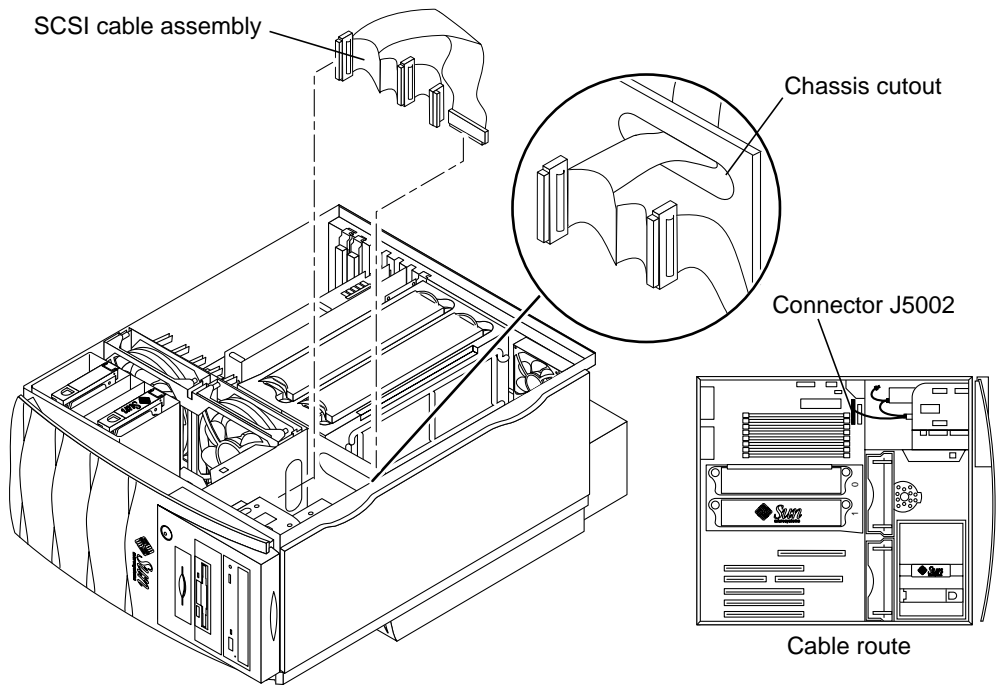

FIGURE 6-7 Removing and Replacing the SCSI Cable Assembly
2. **Disconnect the SCSI cable assembly as follows (FIGURE 6-7):**
1. **Connect the SCSI cable assembly as follows (FIGURE 6-7):**